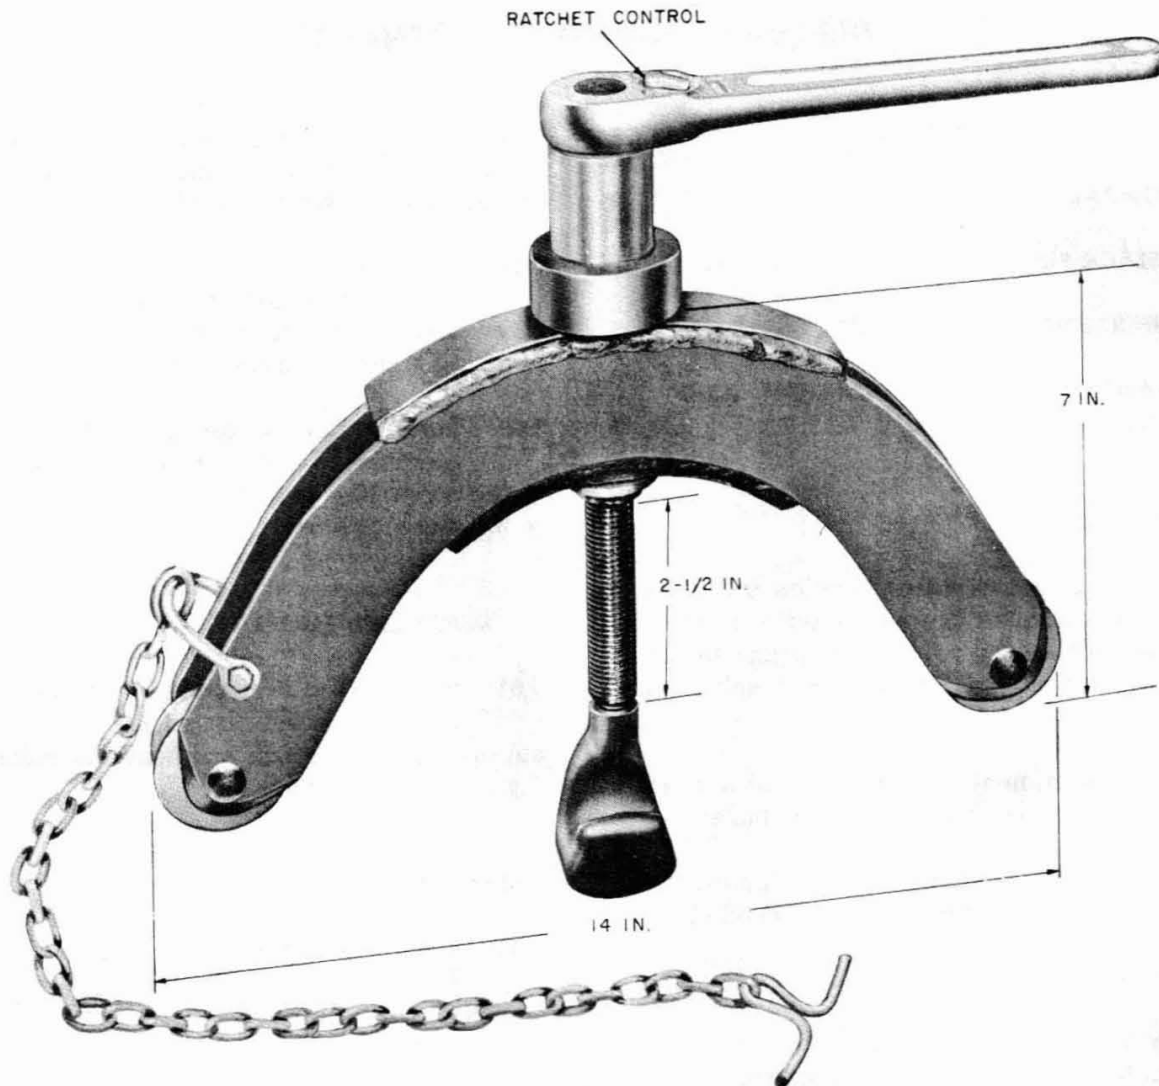

Fig. 1—F Slack Puller
**2.01** ♦The F slack puller consists of a welded-steel arch-shaped frame supporting grooved rollers at each end, a lifting screw assembly, and a ratchet handle (Fig. 1). Attached to the frame is a shackle and safety chain to prevent accidental dropping from the strand.♦
**3.01** Slack pullers which are superseded but still in use are discussed below. All have approximately the same dimensions indicated in Fig. 1 for the F puller.